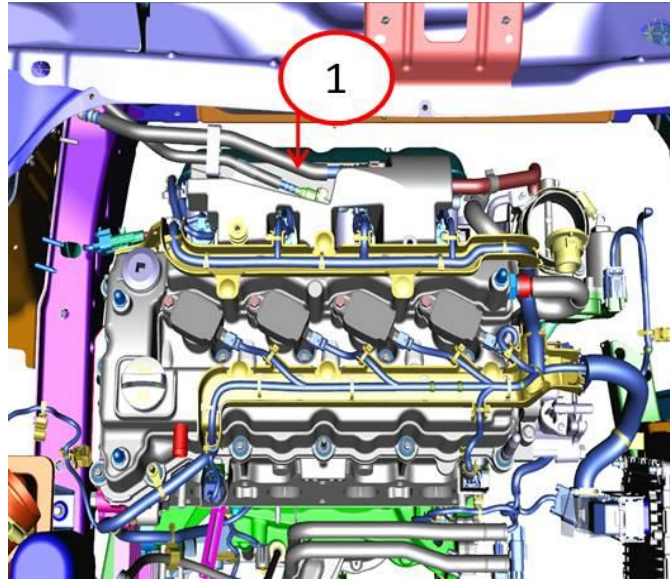

Fig. 4 Purge Hose
9. Remove the quick connect fuel/vapor jumper hose assembly from the engine (Fig. 4). Refer to the detailed service procedures available in DealerCONNECT> TechCONNECT under: Service Info>14 - Fuel System/Fuel Delivery, Gas/Fitting, Quick Connect/Standard Procedure.
16. Install the quick connect fuel tank hose assembly to the engine (Fig. 4).